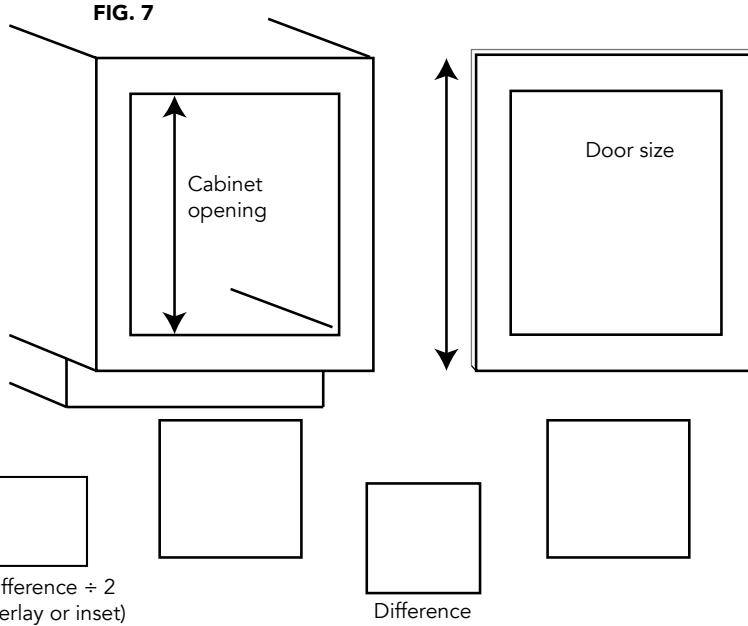

FIG. 8A
Mark screw locations to the center of the thick portion of the door, pre-drill pilot holes, and attach door with (4) 6 x 1/2" flat head screws (See Fig. 8A).